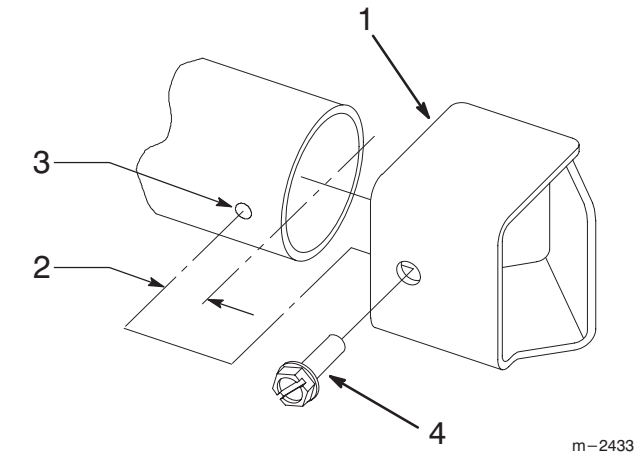

Figure 1
- 1. Mark hole location on tailpipe, 5/16" (8 mm) from end of pipe on horizontal center line (Fig. 1).
- 2. Center punch and drill a 1/8" (3 mm) hole into tailpipe (Fig. 1).